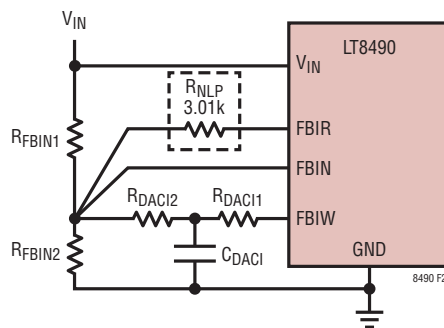

Figure 25. Disabling Low Power Mode with Resistor  $R_{NLP}$
**DISABLING LOW POWER MODE:** If the minimum input capacitance, or 10V minimum start-up voltage are not suitable for the application, low power mode can be disabled by including the resistor  $R_{NLP} = 3.01k\Omega$  as shown in Figure 25. When low power mode is disabled, the LT8490 will attempt to charge the battery after 6V or more is detected on the panel. If the input current is too low (typically less than 1.5% of the maximum input current limit) charging is temporarily halted. The LT8490 will attempt to charge the battery on 30 second intervals or when the LT8490 measures a significant rise in the panel voltage. When the LT8490 determines that there is sufficient panel current, normal charging operation will automatically resume.